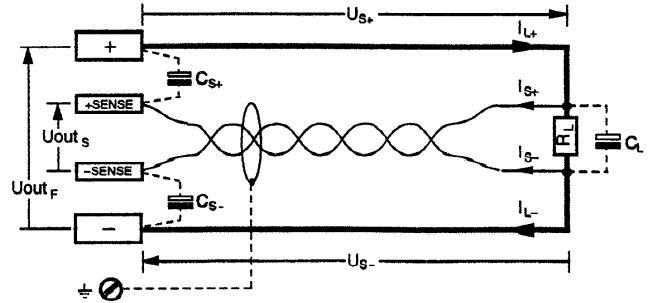

Figure 2.3 Connection to Consumer for Sensing Mode Operation
- The **parameters** and **limit values** listed in **figure 2.3** apply for operation with sensing leads.
- Control oscillation can be counteracted by connecting capacitors ( $C_{S+}, C_{S-}$ ) between the **SENSE** and the **output terminals** (see figure 2.3).